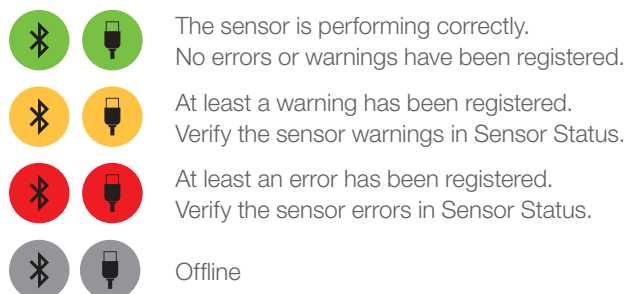

Figure 22: Description of the traffic lights on ArcAir
- 2) Control the traffic lights in the Quick View or sensor list (see Figure 22).
- 2) Control the traffic lights in the sensor list or Quick View (see Figure 22).